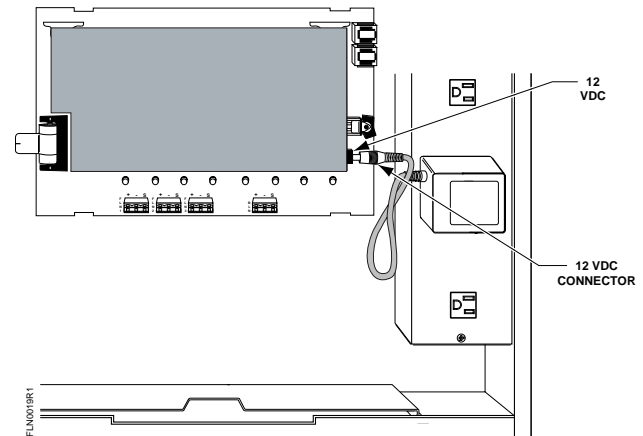

Figure 12. 115 Vac Power Supply Plugged into Power Receptacle.
2. Plug the power pack into the power receptacle of the Easylink Enclosure (Figure 12).